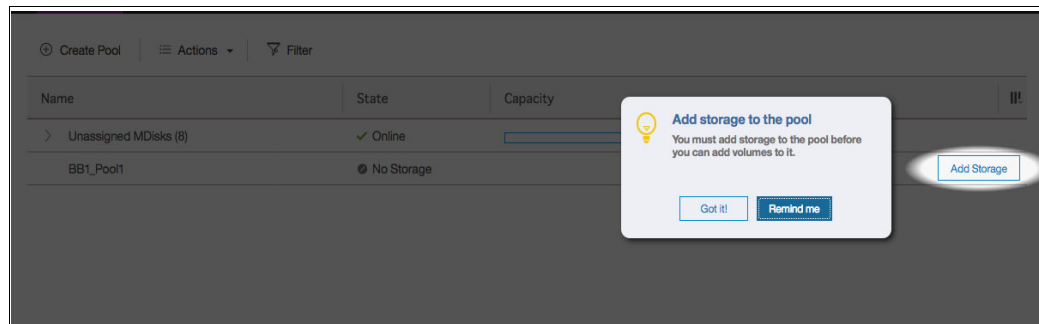

Figure 4-51 Reminder to add storage to the pool
4. On return to the MDisk by Pool display you may see this reminder in Figure 4-51 stating that the pool is empty, and needs to have storage added.